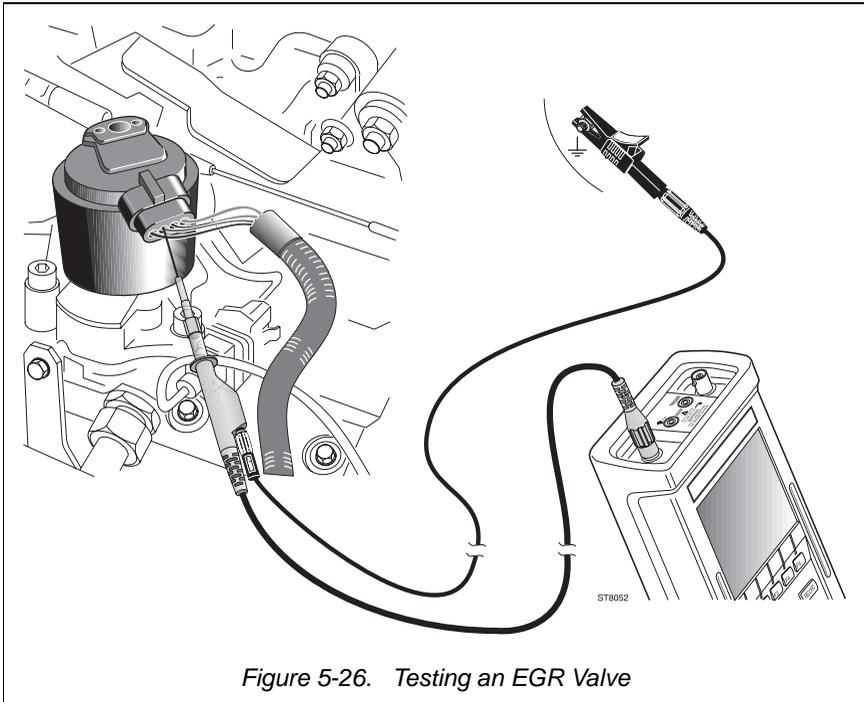

Figure 5-26. Testing an EGR Valve
- ③ Connect the test leads as displayed by the test tool's Connection Help and shown in Figure 5-26.
- ④  Starts the EGR test.